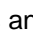

Fig. 31 Opening rear hatch from the outside.
- Press and hold the  button on the remote control vehicle key to *unlatch* the rear hatch. Then open the rear hatch using the button ⇒ fig. 31
- Lift the rear hatch at the button ⇒ fig. 31 (arrow) and open it.